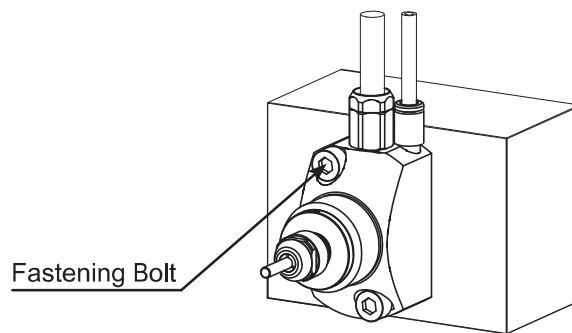

Fig. 27
- (1) Insert the motor spindle housing diameter section into the machine's tool plate bore.
- (2) Secure the motor spindle through the counter-sunk holes (2 locations) on the flange face using bolts as shown in Motor Spindle Operation Manual Fig. 2, Fig. 4, Fig. 6 and Fig. 7. Refer to table 2 and Fig. 27.